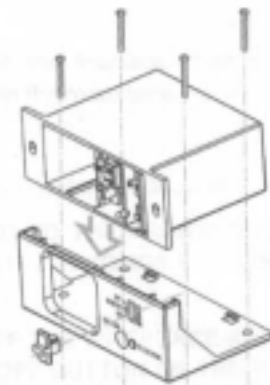

Figure 4
- Slide the Remote Receiver into the fireplace mounting plate. See Figure 4.